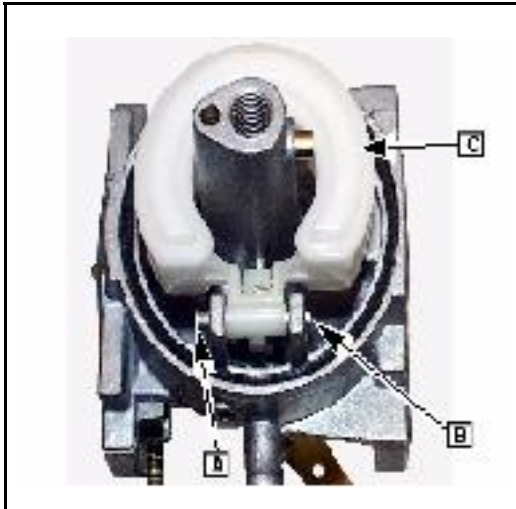

Fig. 30
The float hinge pin ([A] Fig. 30) is a wedge fit.
5. Tap the small end of the pin (B) with a center punch until it is loose.
6. Remove pin (A) and remove the float ([C] Fig. 30) and inlet needle assembly.